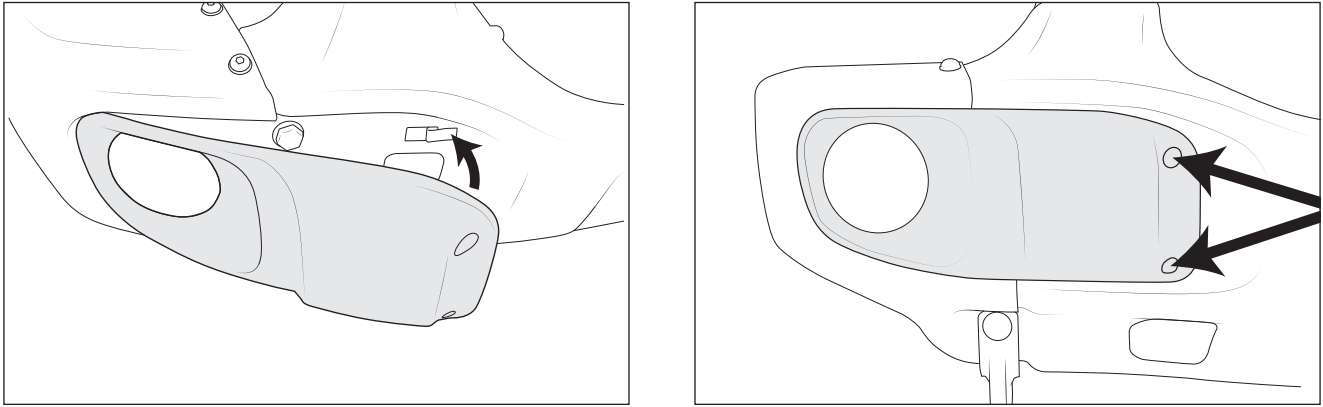

Figure 35
5. Install fog bezels by hooking outer tabs under cutouts in the corner stamping, then install provided black #8 screws through holes in fog bezel and into the U-nuts installed in previous step. Push bezel outward to make sure it fully seats into the corner and snug the screws with a T20 Torx driver. Do not overtighten or the screw head could pull through the plastic bezel (fig. 35).